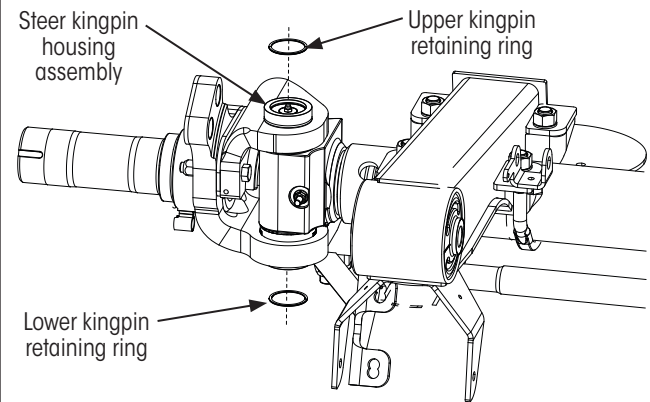

Figure 36: Installing kingpin retaining rings
3. **Install** new retaining rings (Figure 36) snugly into inner groove of each kingpin housing assembly.